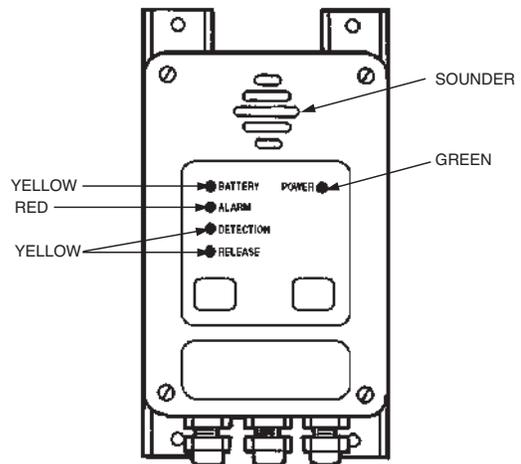

FIGURE 17
▶ **FRONT PANEL INDICATORS** (See Figure 17)